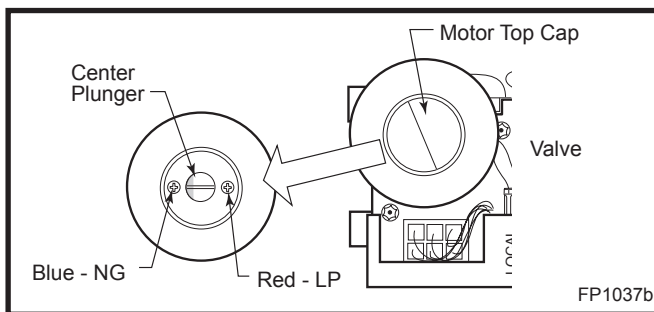

Fig. 60 Depress and turn center plunger.
19. Remove motor top cap. Depress and turn center plunger until arrow points to correct screw. Red for LP and Blue for NG. **NOTE:** Plunger will "snap" into NG position when arrow is close to blue screw. It will not "snap" at LP (Red) position. (Fig. 60)